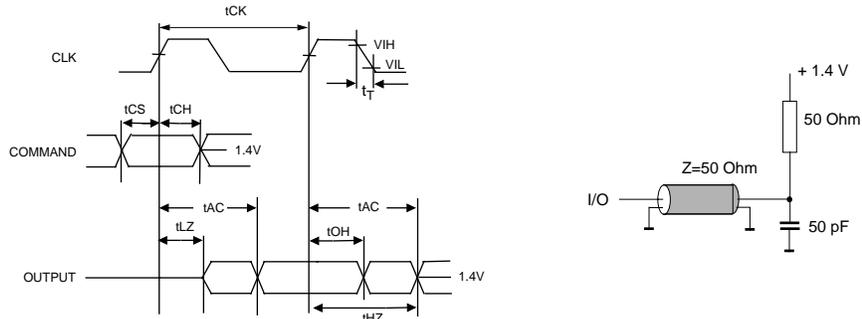

Figure 1.
2. AC timing tests have  $V_{IL} = 0.8V$  and  $V_{IH} = 2.0V$  with the timing referenced to the 1.4 V crossover point. The transition time is measured between  $V_{IH}$  and  $V_{IL}$ . All AC measurements assume  $t_T = 1ns$  with the AC output load circuit shown in Figure 1.